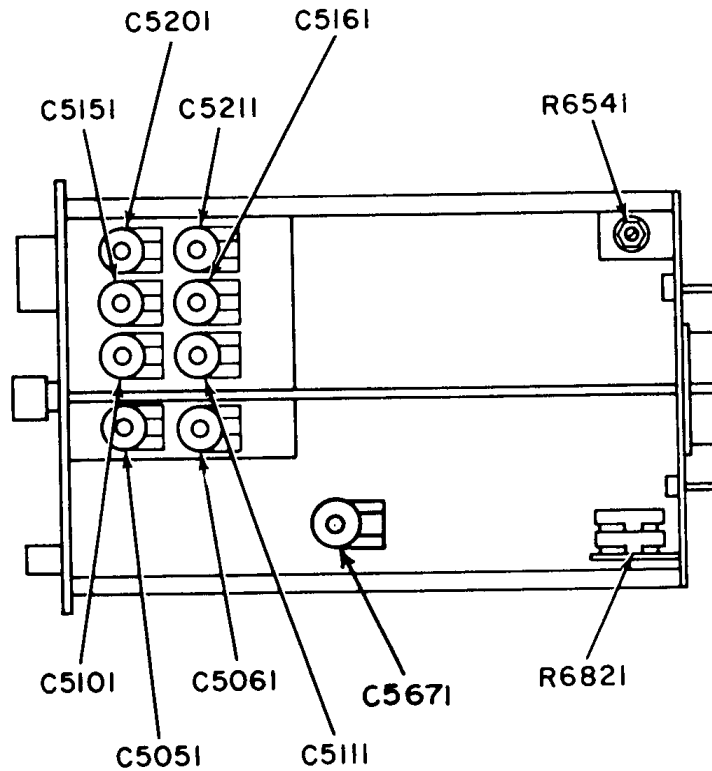

Figure 1. Plug in - bottom view.
e. Using TI **VERTICAL POSITION** control, position trace on crt graticule centerline. If trace cannot be positioned to centerline, set **VERTICAL POSITION** control to midrange and adjust **R6821** (fig. 1) until trace is positioned on crt graticule centerline.
.2	C5111 (fig. 1) (R)
.5	C5161 (fig. 1) (R)
1	C5211 (fig. 1) (R)
b. Adjustments. Adjust **C5061** (fig. 1) for square waves with optimum square corners (R).
(1) Connect square-wave generator (A3) hi amplitude output to TI **INPUT**, using cable and termination supplied with square-wave generator, standardizer (B5), adapter (B1), and if required, adapter (B2).
(2) Turn TI **VOLTS/CM** switch to **.05**.
(3) Adjust square-wave generator amplitude for 4 centimeters of vertical deflection on oscilloscope (A2) crt.
(4) Adjust standardizer for optimum square-wave display on crt. If square waves do not have flat tops, adjust **C5671** (fig. 1) to midrange and readjust standardizer for optimum square waves.
(5) Repeat technique of (2) and (3) above for TI **VOLTS/CM** switch settings listed in table 6. Adjust for optimum square-wave display. Do not readjust standardizer.
.1	C5051 (R) (fig. 1)
.2	C5101 (R) (fig. 1)
.5	C5151 (R) (fig. 1)
1	C5201 (R) (fig. 1)
b. Adjustments. Adjust **C5051** (fig. 1) for square waves with flat tops (R).
- (1) Turn Oscilloscope (A2) power switch to off position and remove extension.
- (2) Insert TI directly into vertical compartment of oscilloscope and turn power switch to on position.
- (3) Turn TI **VOLTS/CM** switch to **.05**.
- (4) Connect square-wave generator (A3) fast rise + output to TI **INPUT**, using cable and termination supplied with square-wave generator, and if required, adapter (B1).
- (5) Adjust square-wave generator frequency to 500 kHz and amplitude for 4 centimeters of vertical deflection on oscilloscope crt.
- (6) Measure rise time, using standard rise-time technique. Rise time will be as specified in table 1 for the type of oscilloscope used. If rise time is not within limits specified, perform **b** below.
b. Adjustments. Adjust **R6541** (fig. 1) (for S/N 353 and up) for best rise time (R).